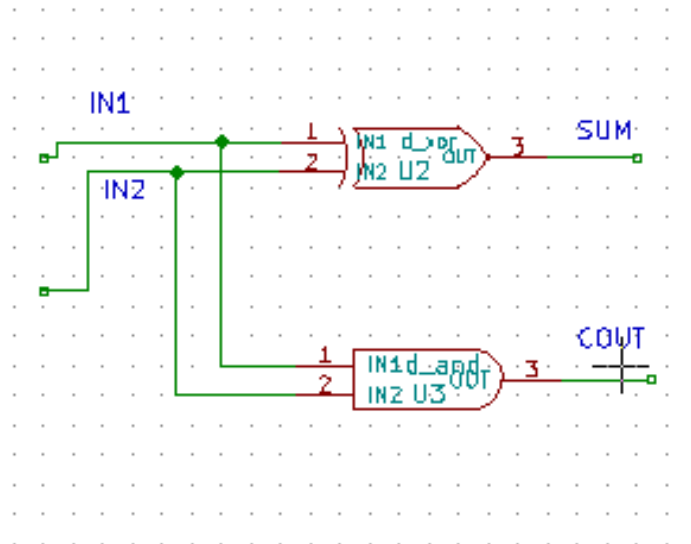

Figure 8.3: New Sub circuit Window
- After clicking **OK** button it will open KiCad schematic. Draw your circuit which will be later used as a subcircuit. e.g the Fig. 8.3 shows the half adder circuit.